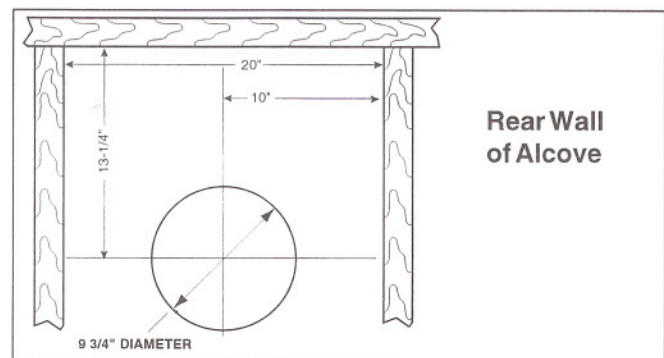

Figure 5.
1. RECOMMENDED ROOF CUT-OUT FOR ROOF JACK. The recommended roof cut-out is depicted in Figure 5.